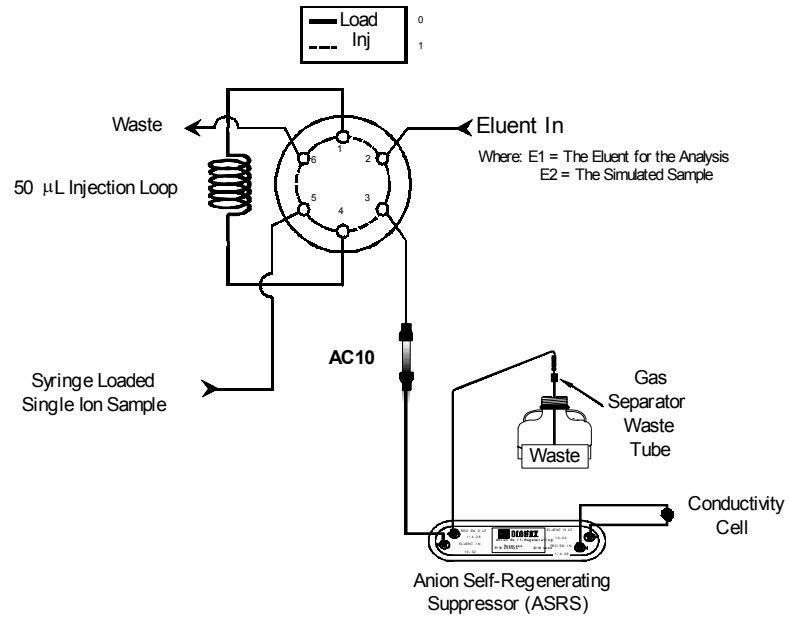

Figure 5
- C. Set up the Ion Chromatograph**, as shown in Figure 5, “Instrument Setup for the Determination of the Breakthrough Volume,” and equilibrate the concentrator column with eluent at the concentration flow rate needed to achieve a stable baseline.